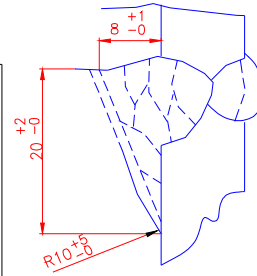

Fig. 13
1. Finish the welded part roundly with a grinder to lower the concentration of stress as shown in Fig. 13.